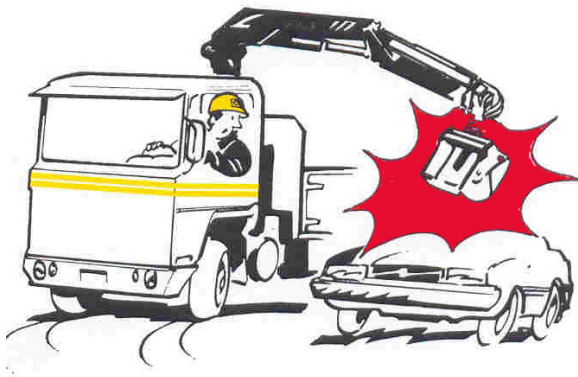

Figure 8.4: Do not travel with boom unstowed
- Do not move the vehicle with the boom unstowed (Figure 8.4).